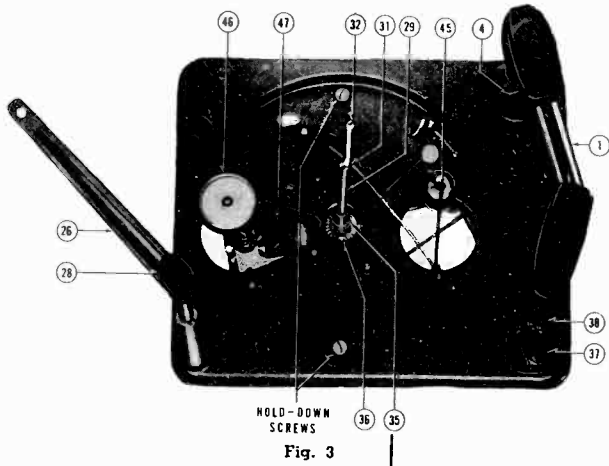

Fig. 3
2. Pick-up Arm Shaft (22, Fig. 3) Apply one drop each to bottom bearing point, bracket hole and hole through Main Base Plate.
TO REPLACE THE SUB-PLATE ASSEMBLY: Reverse the above procedure making certain that all parts fall into their proper positions. Particularly note the Selector Lever and Selector-Lever Compression Spring (41, Fig. 4) to see that they are in position with the lever through the slot in the Pick-up-Arm-Raising-Lever Bracket. (32, Fig. 3).